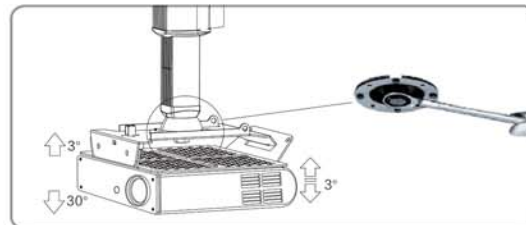

Figure 11
C. Align the projector and fasten screw (6) with the Allen key (fig 11)
2 Once the projector has been aligned, tighten the ball head screw (fig 11)